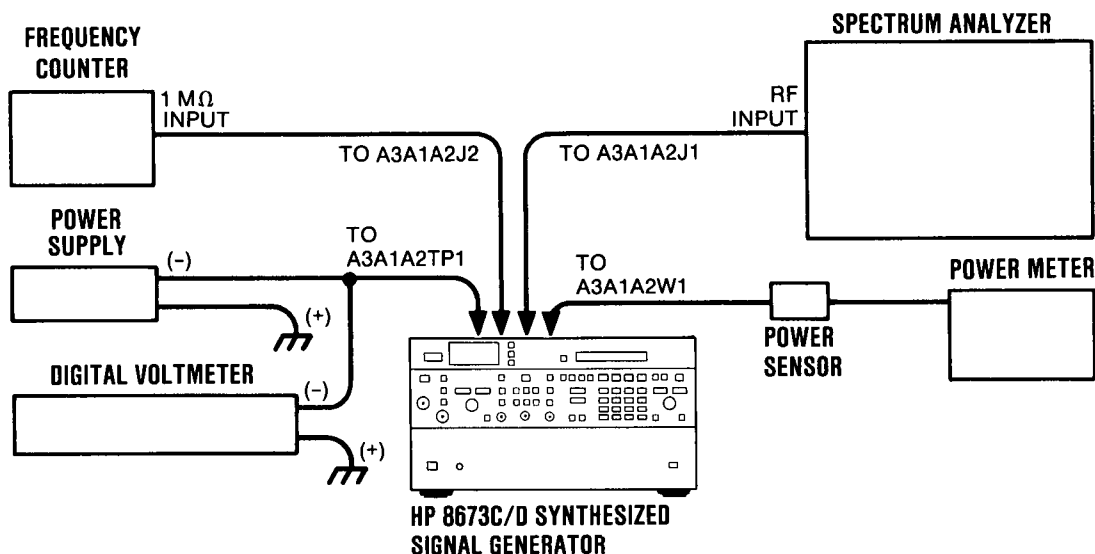

Figure 5-6. Reference Loop (VCXO) Adjustment Test Setup
1. Connect the frequency counter to A3A1A2J2 in place of the termination and connect the spectrum analyzer to A3A1A2J1 in place of the gray-orange-white cable, as shown in Figure 5-6.